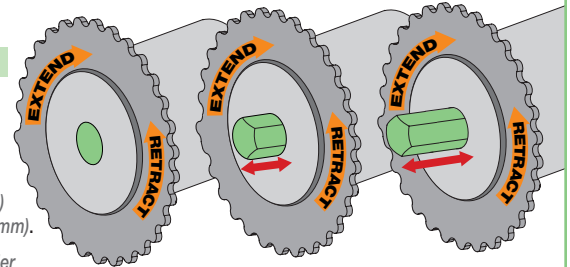

Figure 5
### Section 5.1 - Operating the Retractable Coupler Shaft (Fig. 5)
3. Ensure the operator-end fabric/roller assembly's coupler shaft is completely retracted (see "Operating the Retractable Shaft" and Fig.5).
4. Raise first rear/upper fabric/roller assembly into place. While Installer #1 inserts the operator end of fabric/roller assembly into the operator-end bracket, Installer #2 lifts the coupler end up next to the coupler bracket assembly, then extends the coupler shaft to the intermediate position by rotating the ring clockwise about 1/3 of a turn (see "Operating the Retractable Shaft" and Fig. 5). This will hold the first unit in place during installation of the next panel.
3. The end of the previously-installed coupler shaft should be flush with the outside edge of the bearing. If it is extended beyond the bearing, retract the coupler shaft of the previously installed roller to the intermediate position (see "Operating the Retractable Shaft" and Fig. 5).
5. Installer #1 fully extends coupler shaft of previously installed roller by rotating the metal ring clockwise about 180° when viewing the face of the coupler assembly (see "Operating the Retractable Shaft" and Fig. 5), until the shaft extends fully into the receiver of the fabric/roller assembly being installed.
6. Installer #2 extends the coupler shaft of the fabric/roller assembly being installed to the intermediate position by rotating the ring clockwise about 120° (see "Operating the Retractable Shaft" and Fig. 5) so the end of the shaft is flush with the outside edge of the bearing.
3. Retract coupler shaft of previously installed roller to the intermediate position (see "Operating the Retractable Shaft" and Fig. 5). The end of the coupler shaft should be flush with the outside edge of the bearing.
6. Installer #2 fully extends coupler shaft of previously installed roller by rotating the metal ring clockwise about ½ of a turn when viewing the face of the coupler assembly (see "Operating the Retractable Shaft" and Fig. 5), until the shaft extends fully into the receiver of the idler-end fabric/roller assembly.